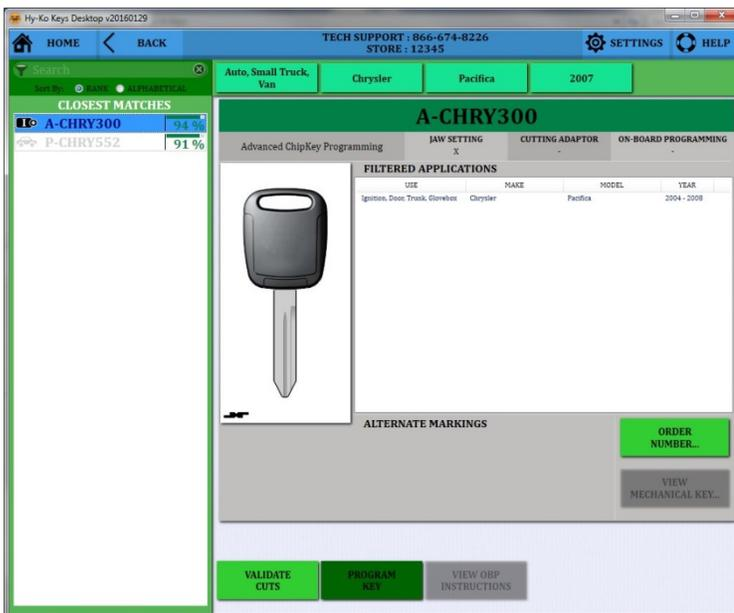

fig. 84
- Click on any key number to see the information on that particular key. An image of the blank and the cross section will be shown as well as other manufacturer part numbers and applications (see fig. 84).